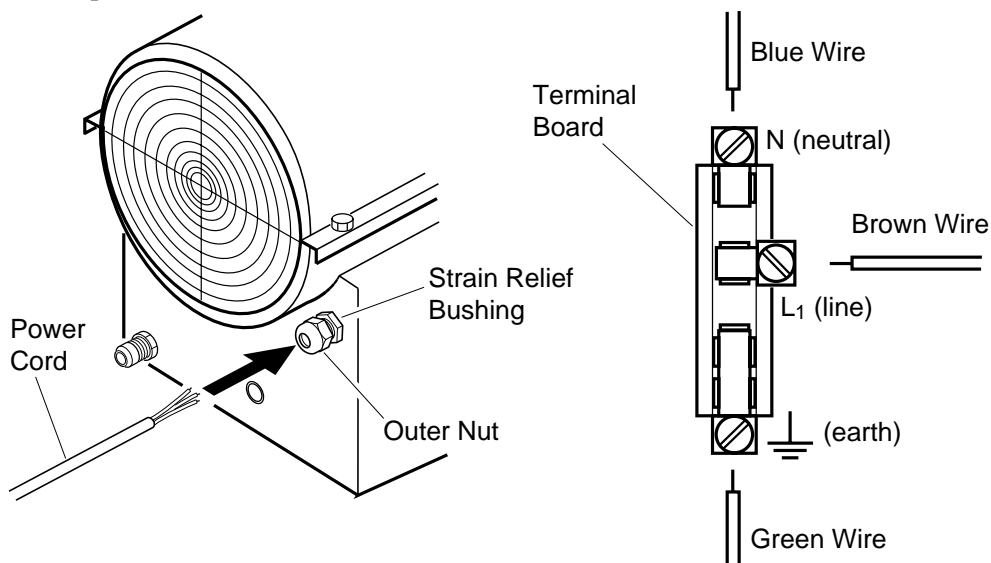

Figure 4 - Attaching Power Cord
2. Locate the strain relief bushing for the power cord on the heater base (see Figure 4).
3. Unscrew outer nut of strain relief bushing (see Figure 4). Only loosen this nut. Do not remove it.
6. Attach power cord wires to terminal board. Figure 4 shows the exact placement of each wire. Attach green wire to the earth terminal. Attach brown wire to the L₁ terminal. Attach blue wire to the neutral terminal.